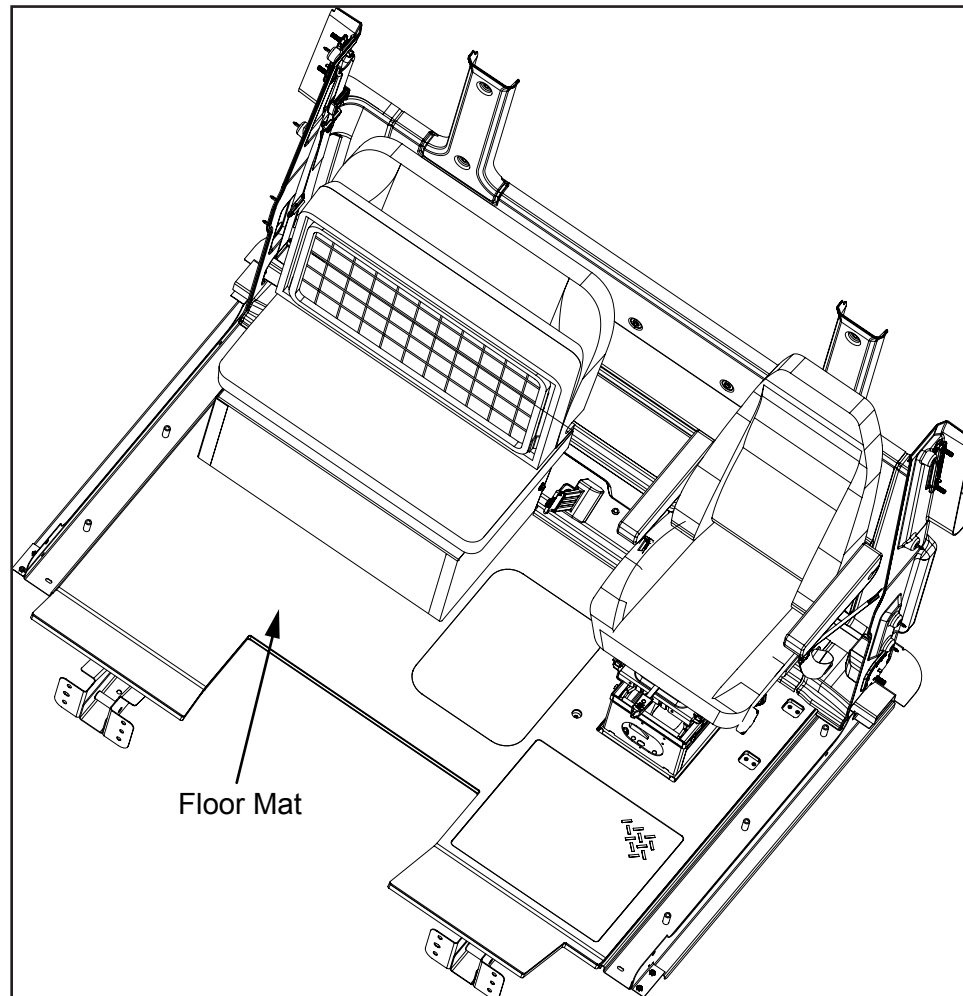

Figure 6
7. Remove the floor mat and set aside for reinstallation (see *Figure 6*).